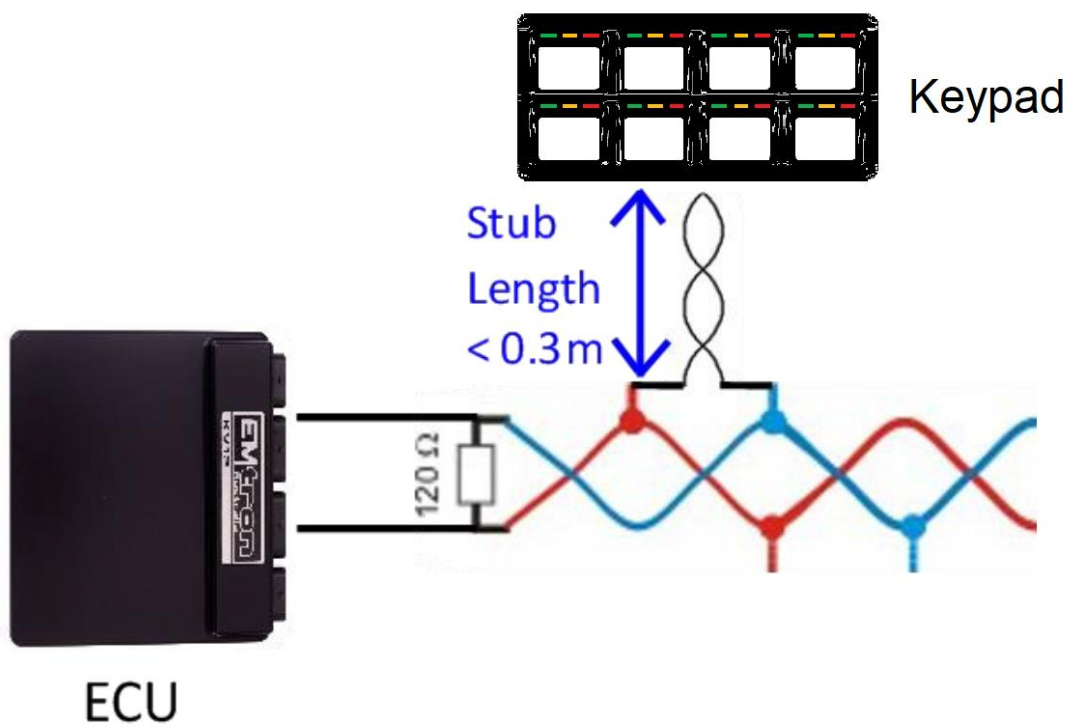

Figure 1.6: CAN Bus wiring example – Stub length less than 0.3m
- Maximum Stub length to a device from the main Bus is recommended at 0.3m, in accordance with High-Speed ISO 11898 Standard specifications. See Figure 1.6